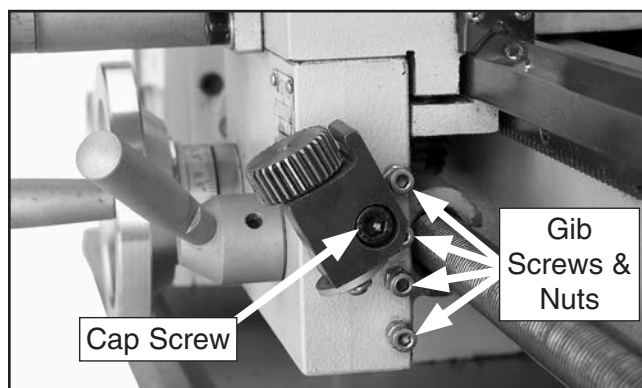

Figure 146. Half nut gib adjustment set screws.
3. Loosen thread dial cap screw, tilt dial out of way, then secure to access gib screws and nuts (see **Figure 146**).